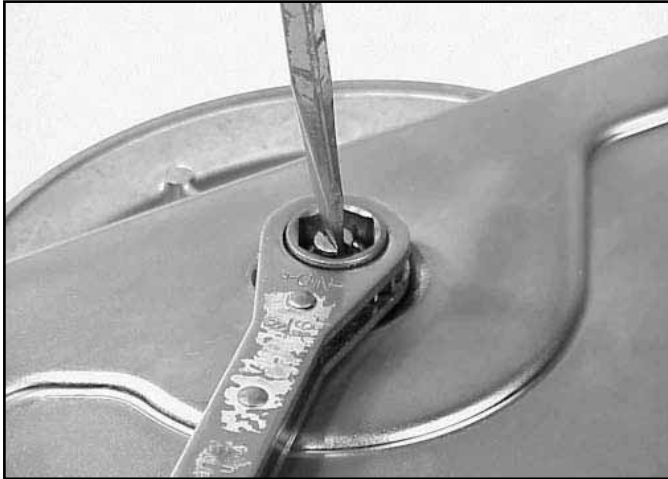
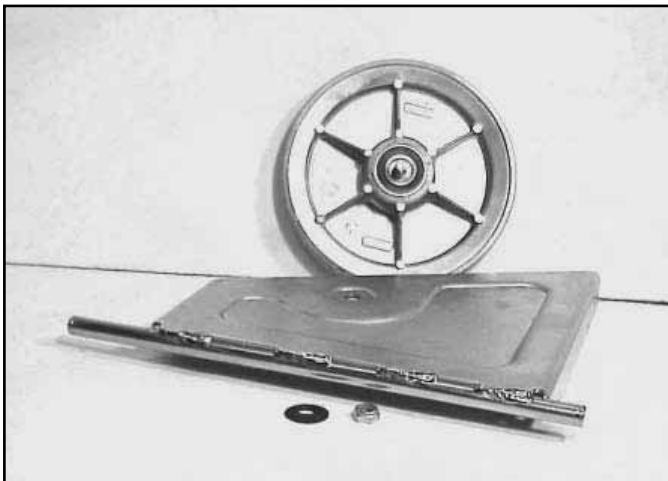

Fig 145
Fig 146
28. Remove the locknut from pivot pulley and separate pulley from pivot plate (Fig. 145 and Fig. 146).